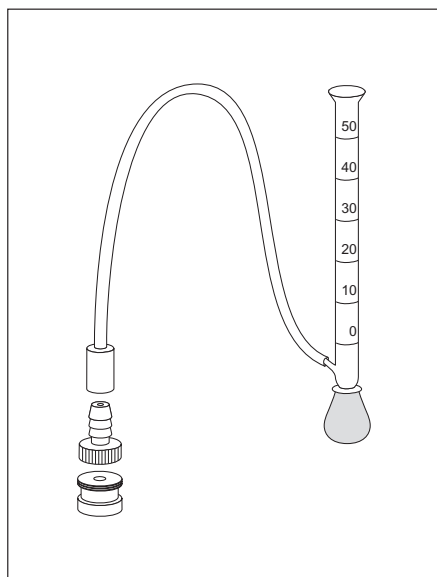

Figure 5-6. Bubble Flowmeter/Detector Connection
- graduated bubble flowmeter (the bulb must be half-filled with a soap solution), as shown in Figure 5-6